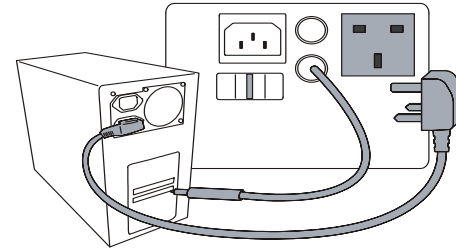

Figure 7. Touch Current Connections
- 1  Connect the appliance and the test probe as indicated on the tester, see also Figure 7.